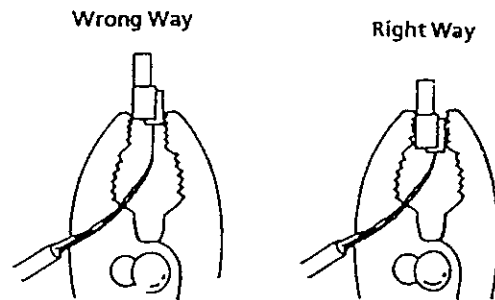

Figure 1-40 Holding the Connector with the Pliers
2. Lightly hold the connector with the pliers. In this case, make sure that the crimping portion is held between the lower portion of the jaws of the pliers. (Refer Figure 1-40 - Holding the Connector with the Pliers).
1. Place the designation card over the keys on the Multiline Terminal. (Refer to Figure 1-40 - Installing the Designation Card, Plastic Panel and Labels on a Multiline Terminal.)
4. Remove the directory card from the sheet and put it on the directory tray (Refer to Figure 1-40 - Installing the Designation Card, Plastic Panel and Labels on a Multiline Terminal.)